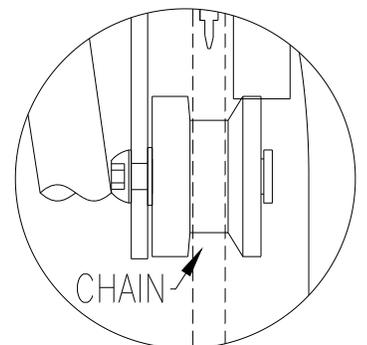

Figure 3.
13. When everything is installed correctly **SPACING A** should be between **4mm & 6mm** and the groove of the roller should be inline with the middle chainring as show in **Figure 3**. The **CHAIN** should ride in the groove of the **ROLLER** when its on the middle chainring and when you shift to the granny chainring the chain should shift up onto the tall step of the **ROLLER**.